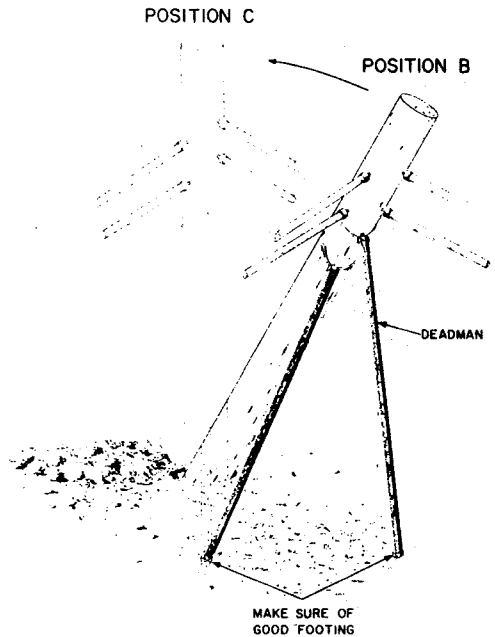

Fig. 15—Complete the Raising of Heavy Pole
- (2) Place a deadman under the end of the pole at right angles to the pole and at an angle from the vertical. (Position A.)
- (3) Distribute workman with pike poles evenly along both sides of the pole.
- (4) Place two cant hooks or peavies near butt about 2 feet above probable ground line to prevent pole from turning and station a workman to tend them.
- (5) Pike the pole toward the leaning deadman until pole is in Position B.
- (6) Remove dolly.
- (7) Place a second deadman nearer the butt at an angle from the vertical and pike the pole toward this deadman till the pole is in Position C. See Fig. 15.